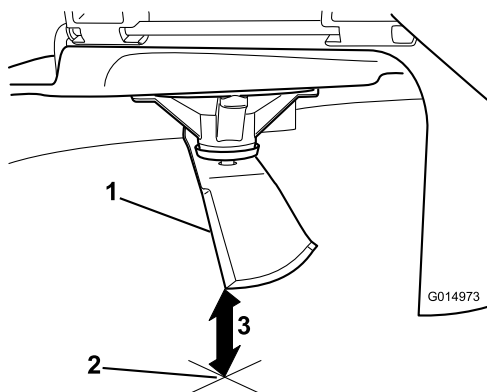

**Figure 54**
2. While wearing thickly padded gloves, or other adequate hand protection, slowly rotate the blade into a position that allows you to measure the distance between the cutting edge and the level surface the machine is on (Figure 54).